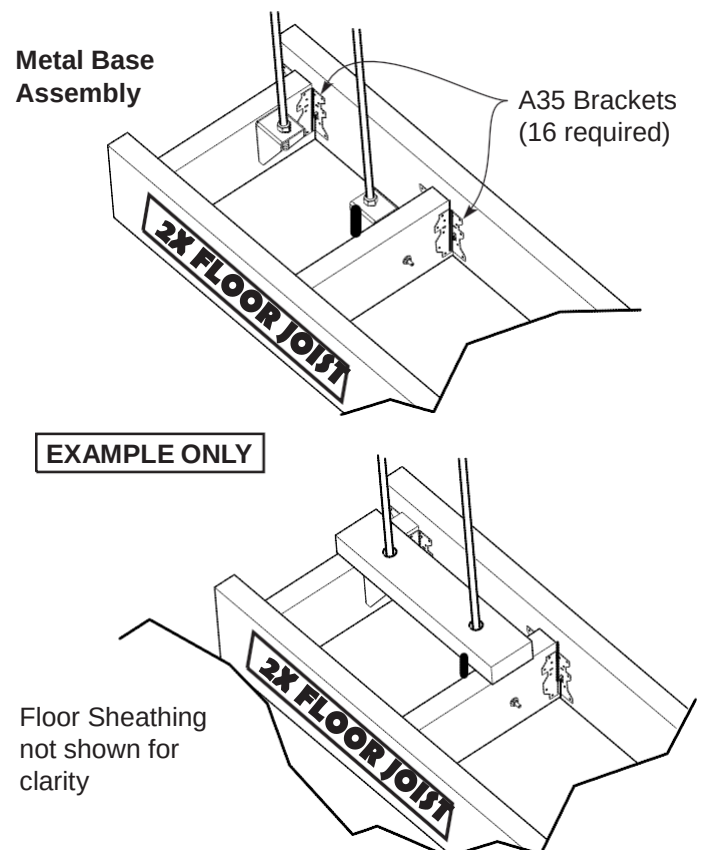

**Figure 26 - Floor Joist Installation**
For installation of firebox over combustible crawl spaces or upper floors, anchorage of the firebox is required. Illustrations of examples of possible anchorage methods are shown in Figures 26 thru 28 depending upon the type of floor framing. Final method of anchorage is to be determined by licensed design professional.
*NOTE: Additional floor joists may be required to support the weight of the firebox and chimney. Where the floor joists run parallel to the front of the firebox, anchorage can be accomplished in like manner as shown in Figure 26 using blocking between the floor joist.*